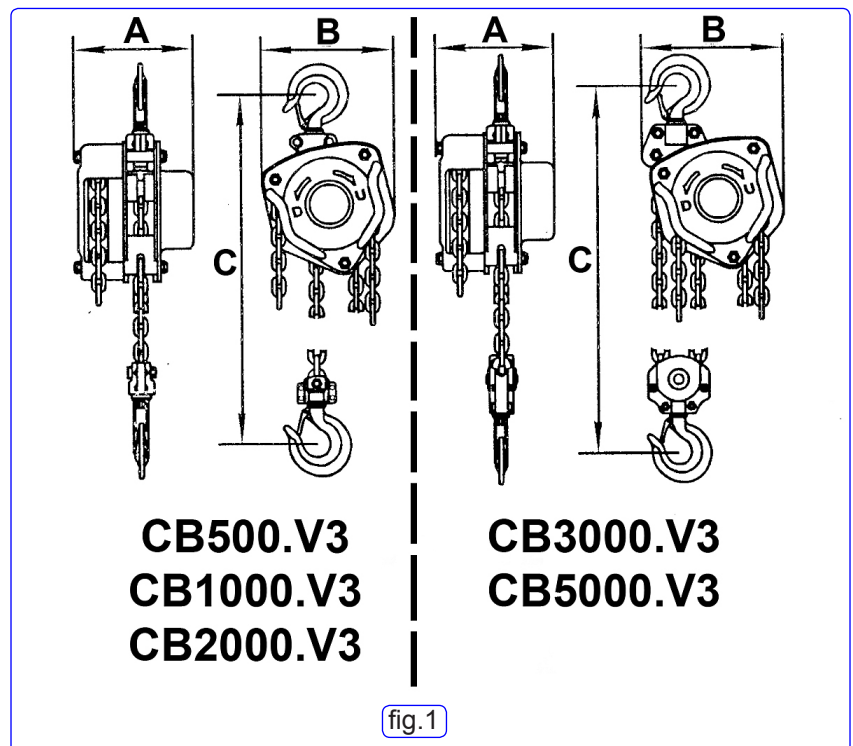

fig.1
2.2. Technical Data (A,B and C refer to fig.1)